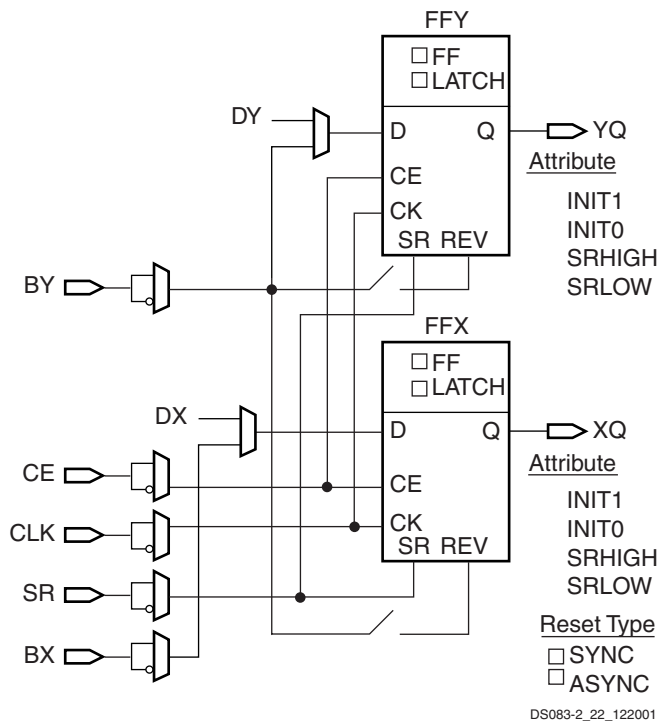

Figure 35: Register / Latch Configuration in a Slice
In addition to clock (CK) and clock enable (CE) signals, each slice has set and reset signals (SR and BY slice inputs). SR forces the storage element into the state specified by the attribute SRHIGH or SRLOW. SRHIGH forces a logic 1 when SR is asserted. SRLOW forces a logic 0. When SR is used, an optional second input (BY) forces the storage element into the opposite state via the REV pin. The reset condition is predominant over the set condition. (See Figure 35.)